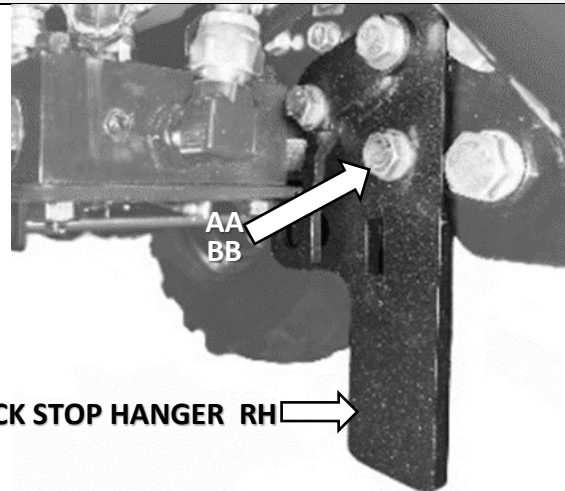

Figure 11A
9. Install the Tractor Deck Stop and Hanger RH using the bolts BB and washers AA, (Figure 11A). Torque to 55 ft-lb.